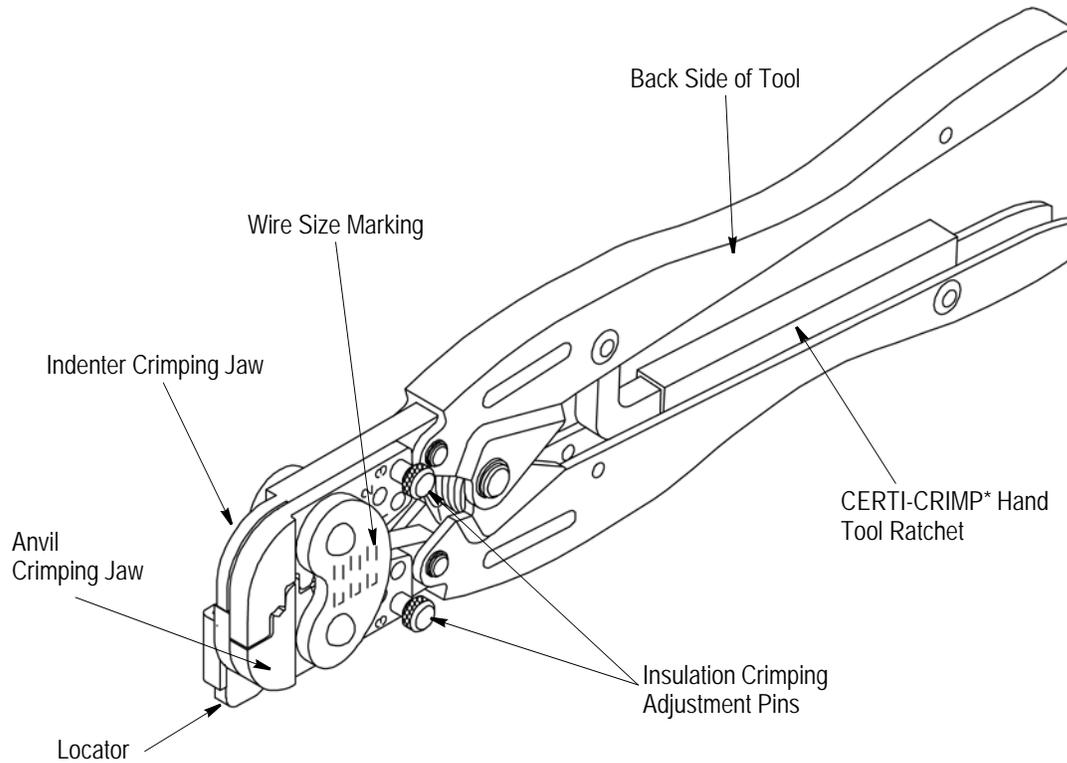

Figure 1
The hand tool ratchet assures full crimping of the terminal. Once engaged, the ratchet will not release until the tool handles have been FULLY closed. See Figure 1.
1. Insert insulation crimping adjustment pins into Position 3 as shown in Figure 1.